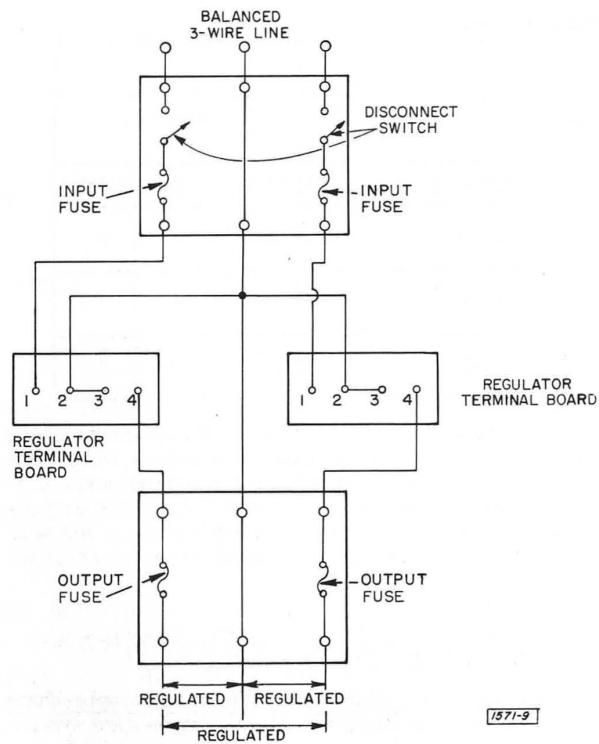

Figure 2-5. Circuit diagram, two regulators, for regulation of both side of a balanced, three-wire line.
**2.2.2.2 Use of Two Regulators to Regulate Both Sides of a Balanced Line.** Each line-to-neutral output and also the line-to-line output can be regulated by the use of two regulators as shown in Figure 2-5. Each regulator maintains constant output voltage from one line to neutral. Thus a balanced output is obtained, regardless of any unbalance in the input voltage or the output load.